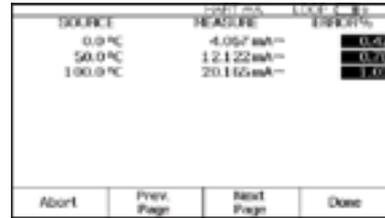

Figure 22.
4. Press **Done** and then press **Auto Test**. Once the test is complete, an error summary table is displayed (Figure 22). Test errors exceeding the tolerance are highlighted. If the test passed, i.e., if no errors are highlighted, adjustment is not required.